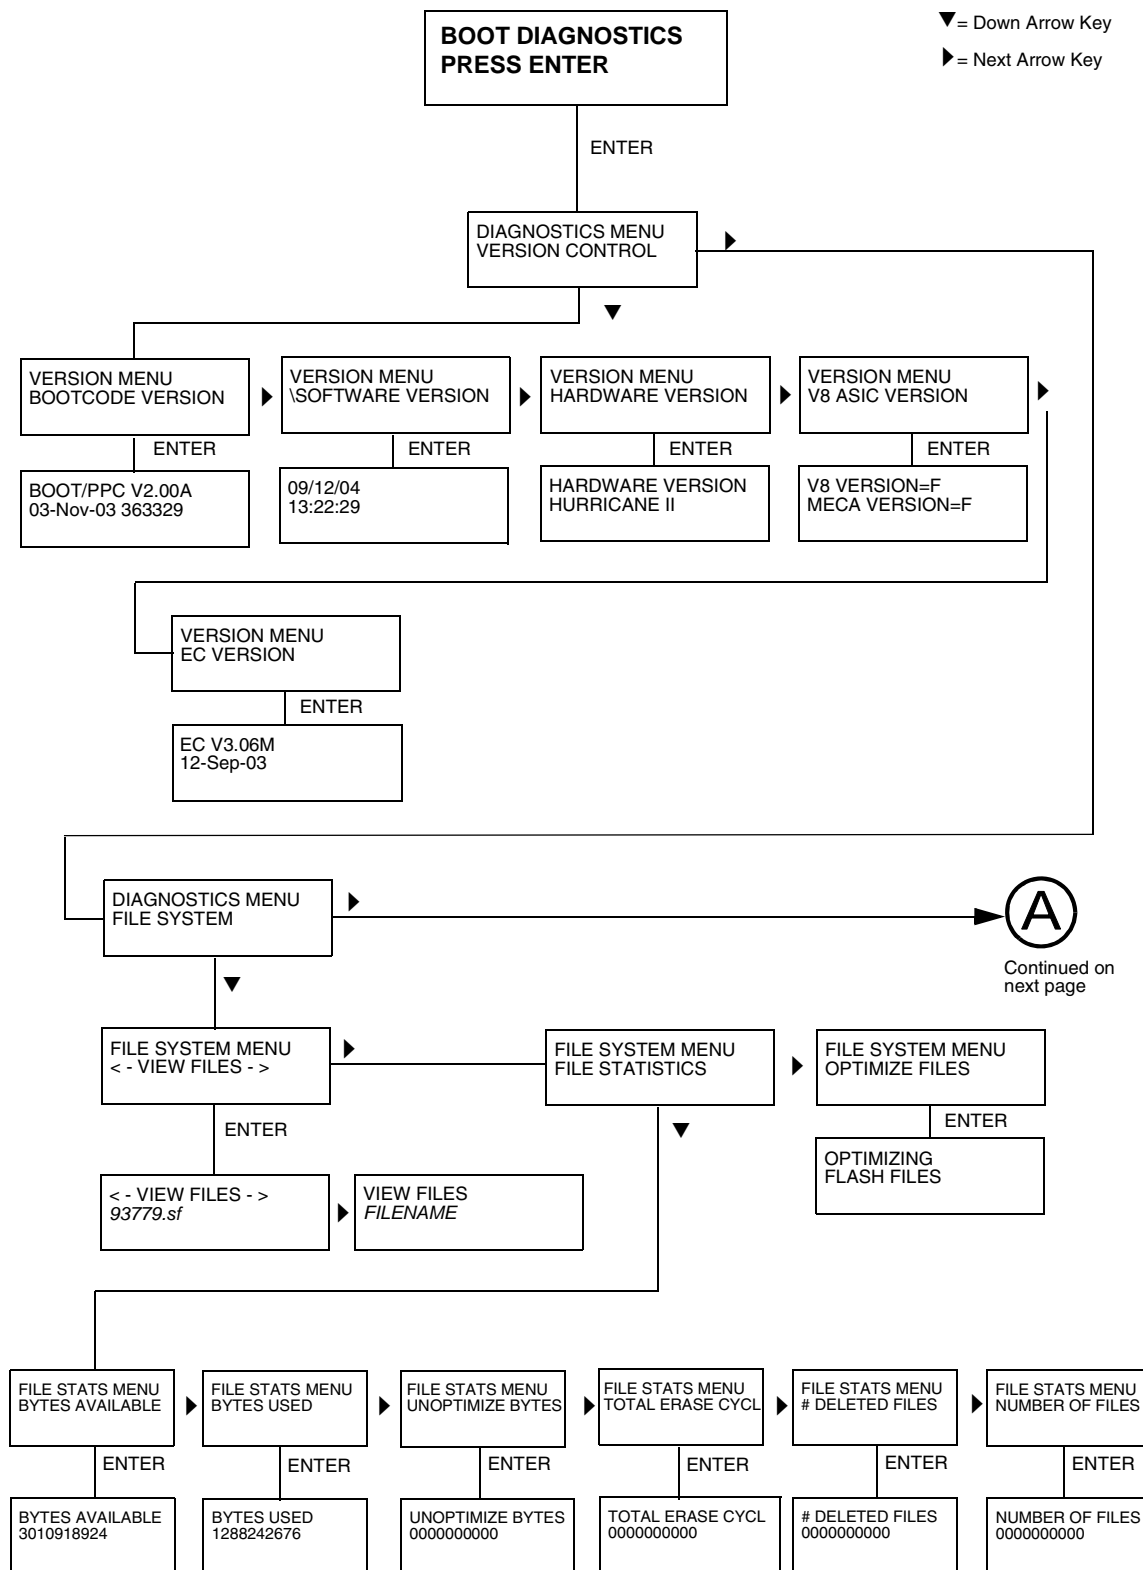

Figure 8. Boot Diagnostics Menu
The boot diagnostics menu is a multi-level menu that operates the same way as the user menus. The menu structure is shown in Figure 8 on page 228.
4. When “BOOT DIAGNOSTICS / PRESS ENTER” appears on the LCD, release the ◀ + ▼ keys and press the **ENTER** key. Menu options are shown in Figure 8.